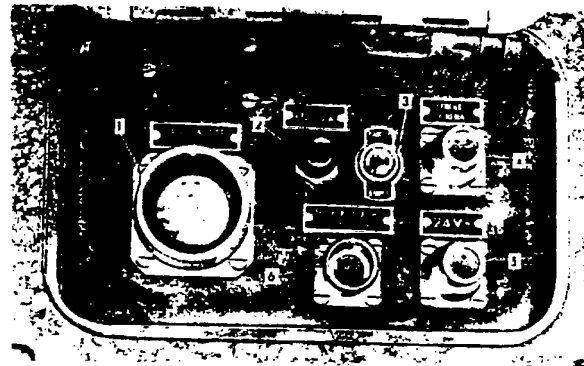

Figure 8. DX-44 projection unit door - controls and indicators.
b. The controls behind the lower door of the DX-44 projection unit are explained in table 4 and shown in figure 8.
**Table 4. Projection unit, DX-44 Lower Door-Controls, Indicators, and Connectors (fig. 8)**